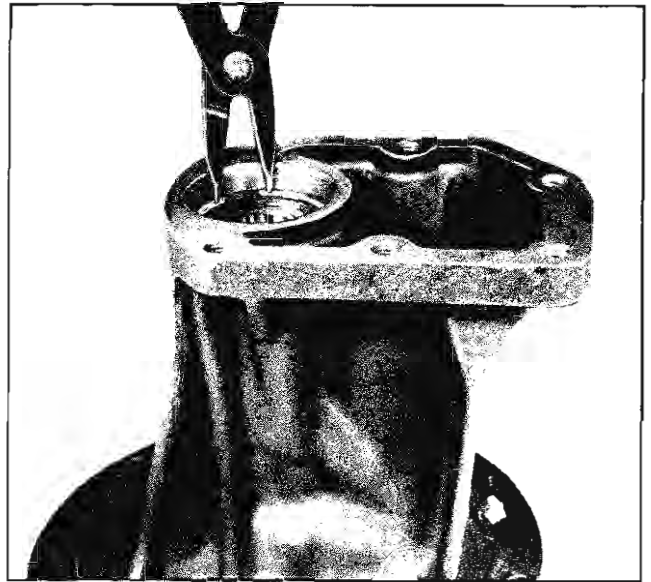

Fig. 7A-47 Removing Bearing Retainer Ring (V-8)
6. Using installer J-21237, install coast downshift timing valve (Fig. 7A-45) in extension housing with tip down. Installer J-21237 is designed to drive the valve into the extension housing so that distance from housing face to top edge of valve is  $\frac{3}{8}$ ".
7. Install pump priming valve into pump body, stem first. Install valve spring and secure with retaining pin (Fig. 7A-45).